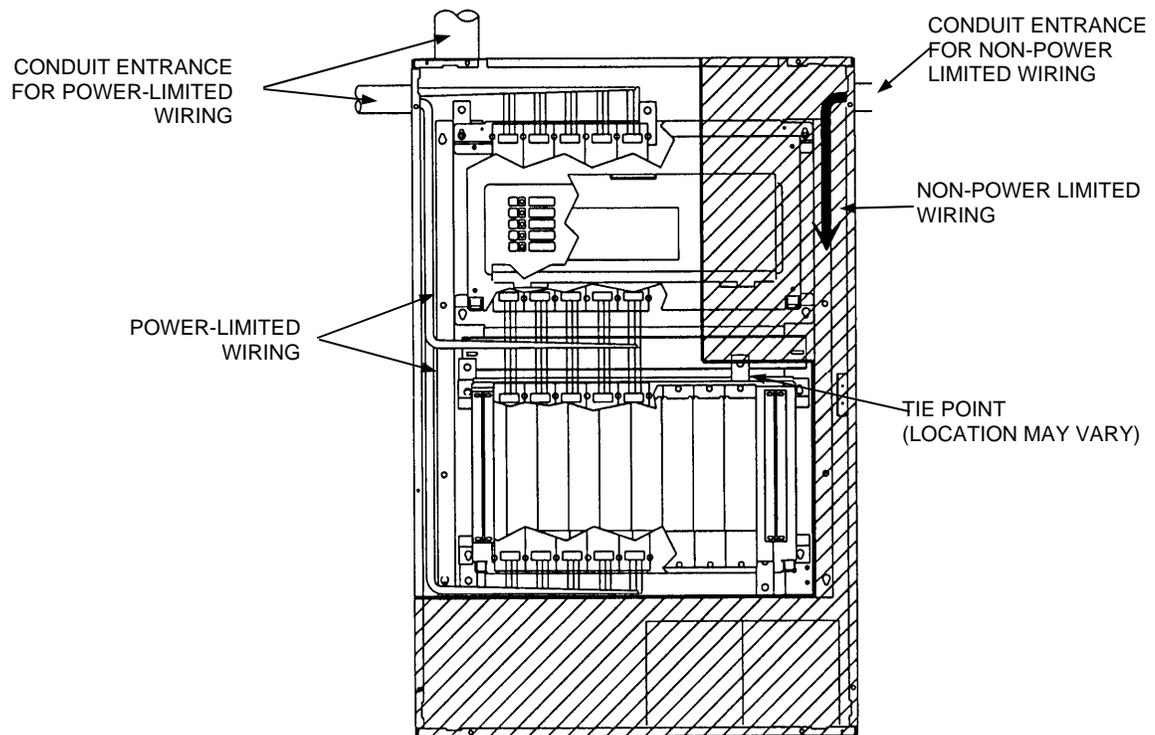

Figure 14. Power-Limited Wiring
- Non-power limited field wiring (AC power, batteries, City connection) must be installed and routed in the shaded areas shown in Figure 14.
- Power-limited field wiring must be installed and routed in the non-shaded areas shown in Figure 14, with the exception of City wiring.
- Excess slack should be kept to a minimum inside the back box enclosure. The wiring should be neatly dressed and bundled together using the wire ties provided with the equipment. Anchor power-limited wiring to tie points, as shown in Figure 14.